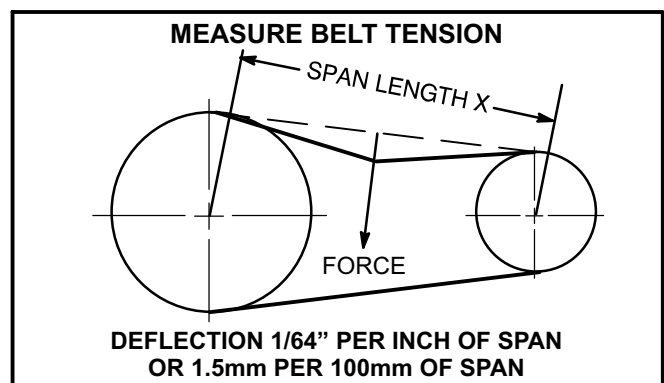

FIGURE 16
- 1- Measure span length X. See figure 16.
- 2- Apply perpendicular force to center of span (X) with enough pressure to deflect belt 1/64" for every inch of span length or 1.5mm per 100mm of span length.